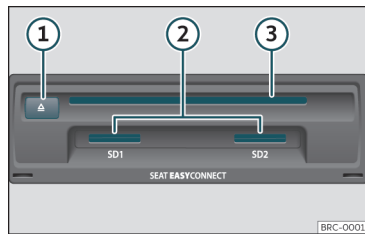

Fig. 156 Slots for data storage devices in the glove compartment.
- Insert a CD or DVD into the slot >>> **Fig. 156** ③ with the printed side facing upwards, until the equipment inserts it automatically.
Insert the compatible memory card, with the cut corner first and the contacts facing down, into slot »» Fig. 156 (2), until it clicks into place.